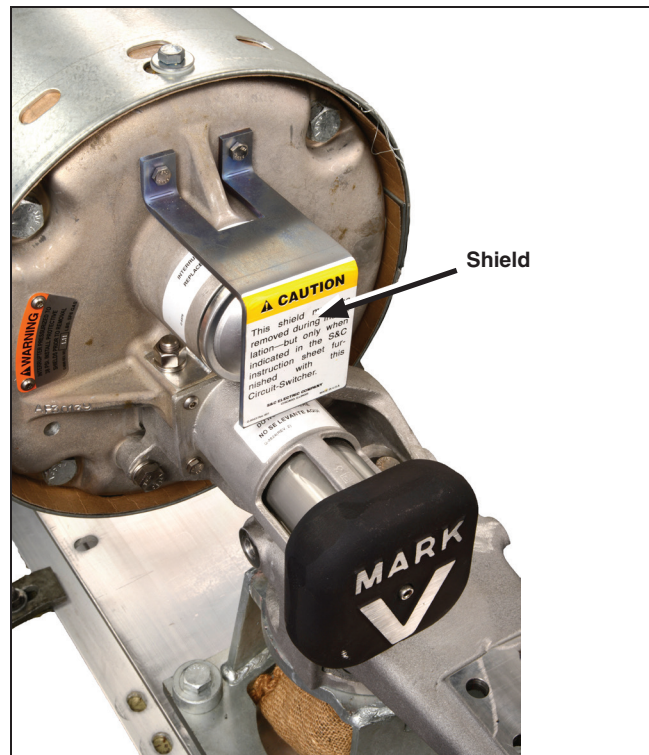

Figure 23. Removing the pressure relief device shield.
- STEP 5.** Remove and discard the shield for the pressure-relief device. See Figure 23.